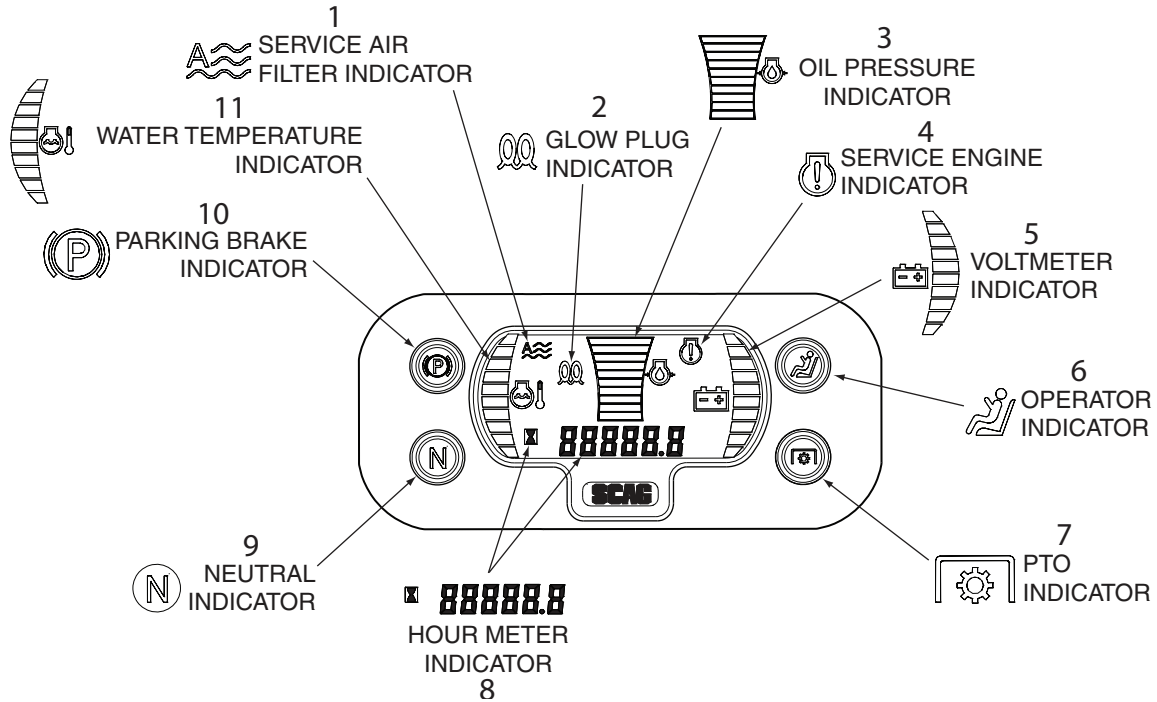

Figure 4-1. Tiger Eye Advanced Monitoring System
1. **Service Air Filter Indicator (Figure 4-1). Optional Accessory.** Indicates the condition of the engine air filter. Icon will display when it is time to change the air filter.
2. **Glow Plug Indicator (Figure 4-1). Used on Diesel Powered Units Only.** Indicator turns on when the key switch is turned to the PREHEAT position. Glow plugs must be preheated for 5 to 10 seconds before starting the engine.
3. **Oil Pressure Indicator (Figure 4-1). Used on Diesel Powered Units Only.** Indicates engine oil pressure. Reference the engine operator's manual for further information.
4. **Service Engine Indicator (Figure 4-1).** Indicates the maintenance reminder for the engine oil change. Has preset maintenance reminder and will start flashing scheduled maintenance 2 hours before preset time and continue flashing until 2 hours after. Automatically resets.
5. **Voltmeter Indicator (Figure 4-1).** Indicates the condition of the charging system. When the engine is running, in normal operating conditions, the bar graph should be in the 12 to 14 volt range.
6. **Operator Indicator (Figure 4-1).** Light will illuminate when the operator is on the platform engaging the operator presence switch.
7. **PTO Indicator (Figure 4-1).** Light will illuminate when the PTO (mower deck) switch is in the OFF position.
8. **Hourmeter Indicator (Figure 4-1).** Indicates the number of hours the engine has been operated. It only operates when the engine is running. Will start flashing with the Service Engine Indicator at scheduled maintenance 2 hours before preset time and continue flashing until 2 hours after. Automatically resets.
9. **Neutral Indicator (Figure 4-1).** Light will illuminate when the steering control levers are in the neutral lock position.
10. **Park Brake Indicator (Figure 4-1).** Light will illuminate when the park brake is in the engaged (ON) position.
11. **Water Temperature Indicator (Figure 4-1). Used on Liquid Cooled Models Only.** Indicates the operating temperature of the engine. If the engine temperature exceeds the maximum preset value, the indicator will flash and the Park Brake, PTO, Seat and Neutral indicator lights will flash in an alternating pattern.
Do not travel forward over a curb. The mower will hang up on the curb. Raise the deck and travel backwards over the curb at a 45 degree angle. (See Figure 4-1 item 9 for cutter deck raising description.)